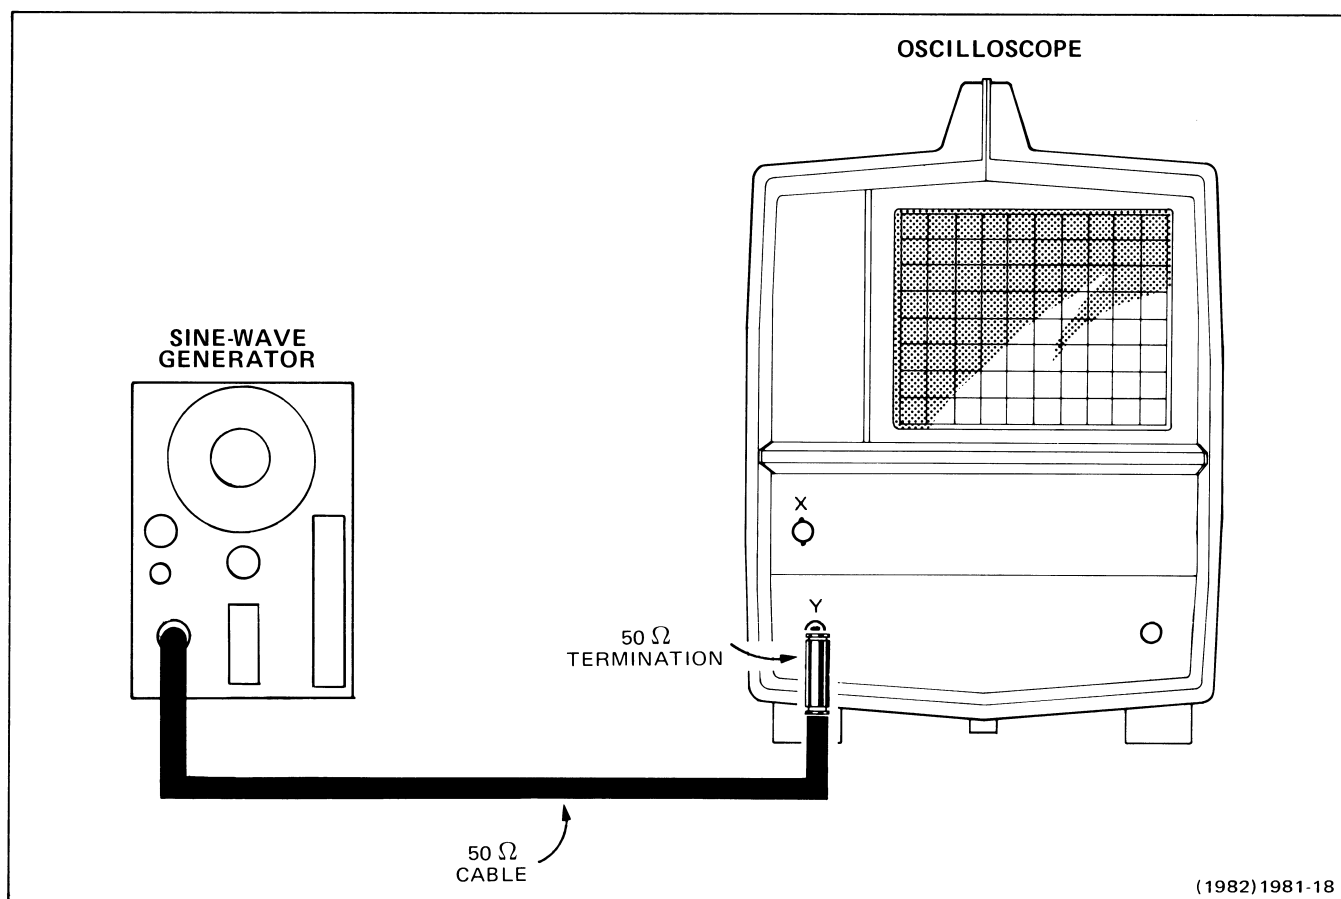

Fig. 4-3. Storage adjustment setup.
k. Connect a bnc $50\ \Omega$ cable to the sine-wave generator, terminate cable with a $50\ \Omega$ termination, and connect the termination to the CH 1 input. (See Fig. 4-3.)
k. Connect a bnc 50 Ω cable to the sine-wave generator and terminate the cable with a bnc 50 Ω termination attached to the CH 1 input (see Fig. 4-3).